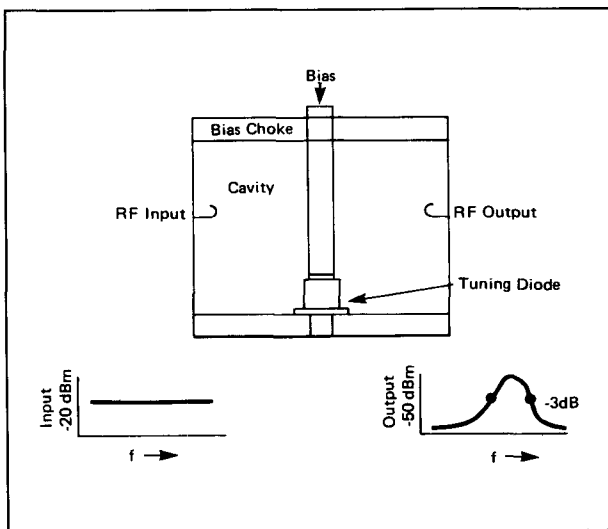

Figure 4-1. Resonant Cavity Q Measurement
1. Resonant Cavity — A half wavelength partial coaxial cavity with the diode terminating the re-entrant center conductor, as shown in Figure 4-1.